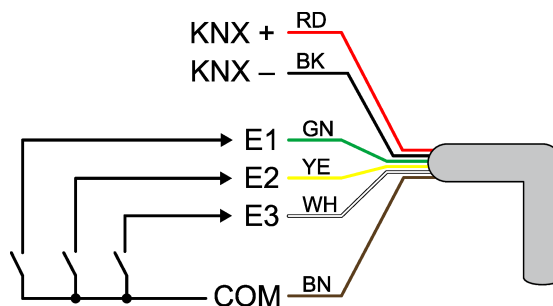

Figure 2: Connection assignment of control cable (example)
- Connect the device to KNX with the correct polarity (see figure 2).
- Connect the potential-free contact of an inverter without a Smart Grid Ready interface (8) to **E1** and **COM** (see figure 2).
- If necessary, connect the potential-free contacts (9) to **E2**, **E3** and **COM** (see figure 2).